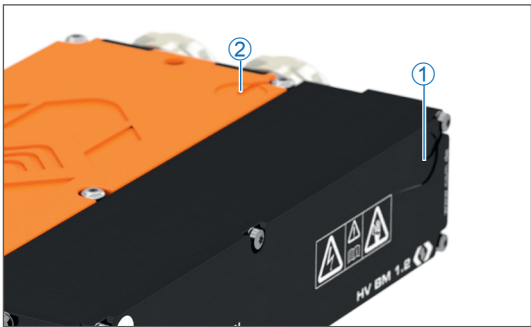

Fig. 4-1: HV BM 1.2, ventilation openings in the housing
HV Breakout Modules are equipped with two GORE™ membranes (Fig. 4-1), which are required for pressure compensation. To ensure the breathing function of the membranes, the ventilation openings in the front of the housing ① or in the lid of the housing ② must never be blocked/covered or permanently covered with water or other liquids. There is then a risk of condensation collecting inside the housing and damaging the measurement module.